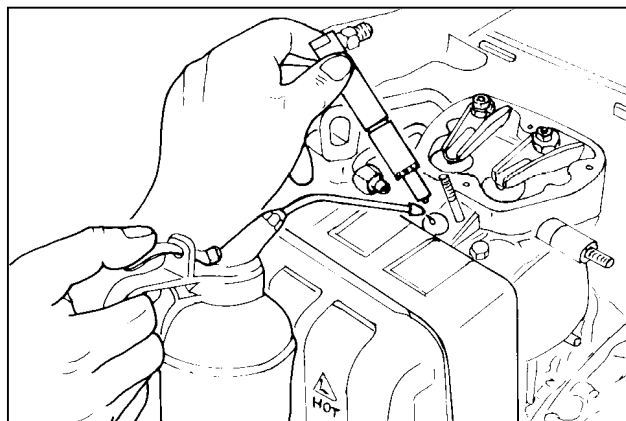

Figure 17
- ❖ Reassemble in reverse order. See figure 17.